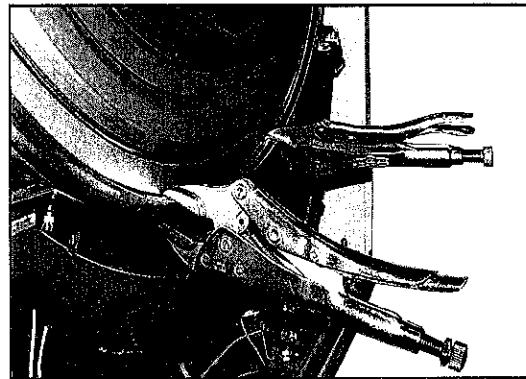

fig.33
- Tighten the lower area of the ring with the grip pliers (fig. 33). If you have more than one plier, place them in the lower area of the ring.